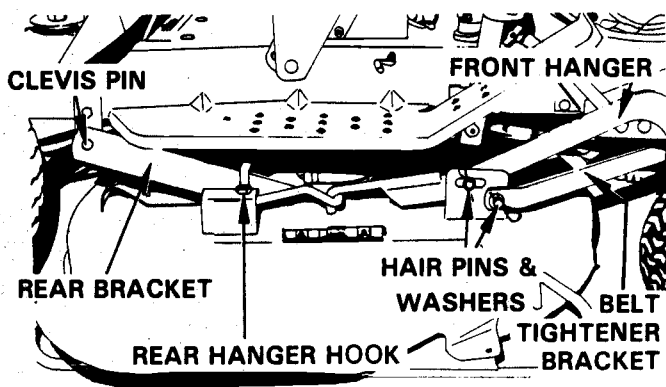

FIGURE 7
REMOVAL OF MOWER PAN — FIGURES 7 & 9
3. Lower the mower pan and remove the hairpin cotters and washers. The two pins and washers on the front secure the mower pan to the front hangers and can be disconnected to free the front of the pan. The other two pins and washers join the front of the pan to the belt tightener bracket. Loosen the hex nuts and turn the rear hanger hooks to the side to free them from the rear hangers. See Figure 7.
INSTALLATION OF MOWER PAN — FIGURES 7 & 8
MOWER PAN LEVELING — FIGURES 7, 9 & 13
3. If adjustment is required, turn the hex nuts on the rear hanger hooks to move the hooks up or down to secure the proper adjustment. When the pan is leveled and hangs evenly, tighten the hex nuts securely. See Figure 7.